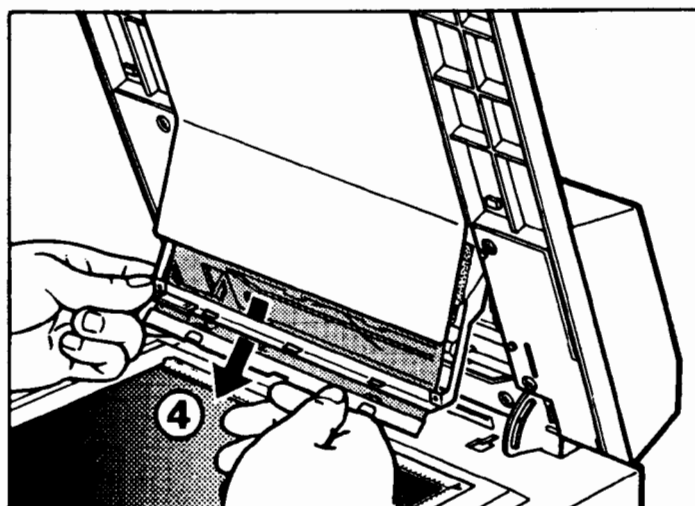

Figure D-14. Removing the Mylar Guide
4. Remove the used guide. See figure D-14.